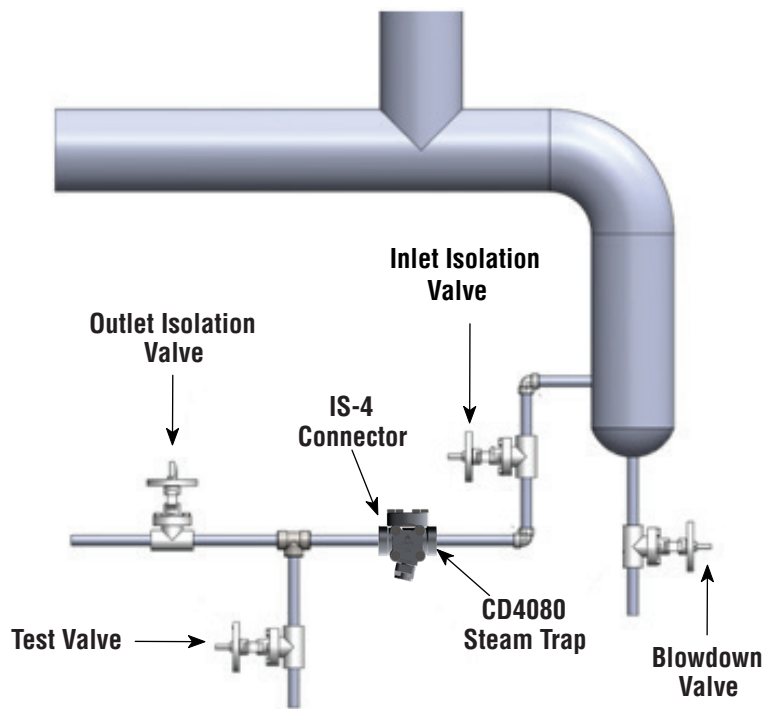

Figure 4-1
**NOTE: Armstrong strongly recommends installing isolation valves upstream and downstream of the trap. Refer to Figure 4-1.**